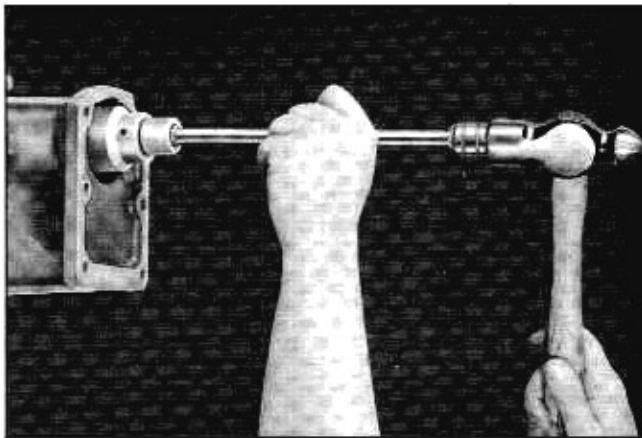

Fig. 7-20 Installing Front Bearing
2. Install spacer and front bearing (Fig. 7-20) in same manner.